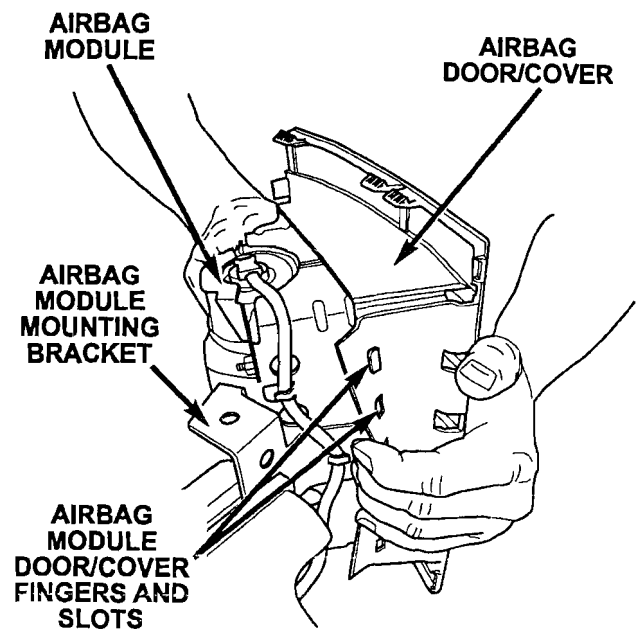

Figure 6
- 10. Remove the airbag plastic door/cover by rolling the cover off the retaining fingers (Figure 6).